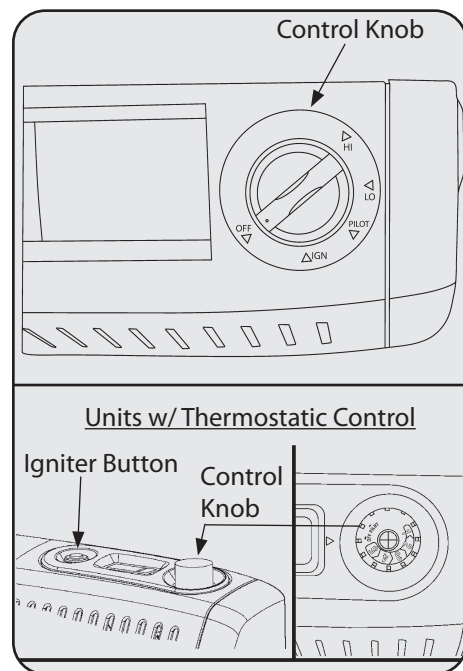

Figure 14
3. Push in gas control knob and slightly turn clockwise to the OFF position See Figure 14.